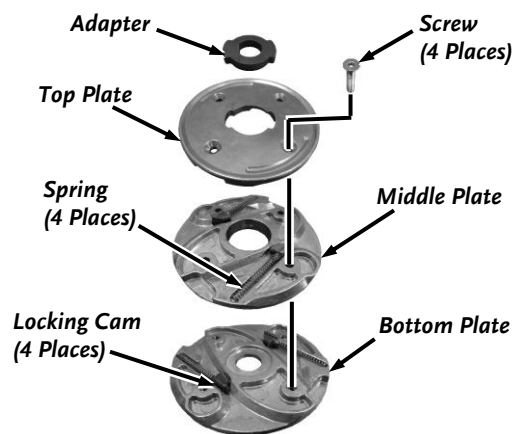

Figure 34
2. Remove the four Screws using a 3mm Allen Wrench (**Figure 34**).